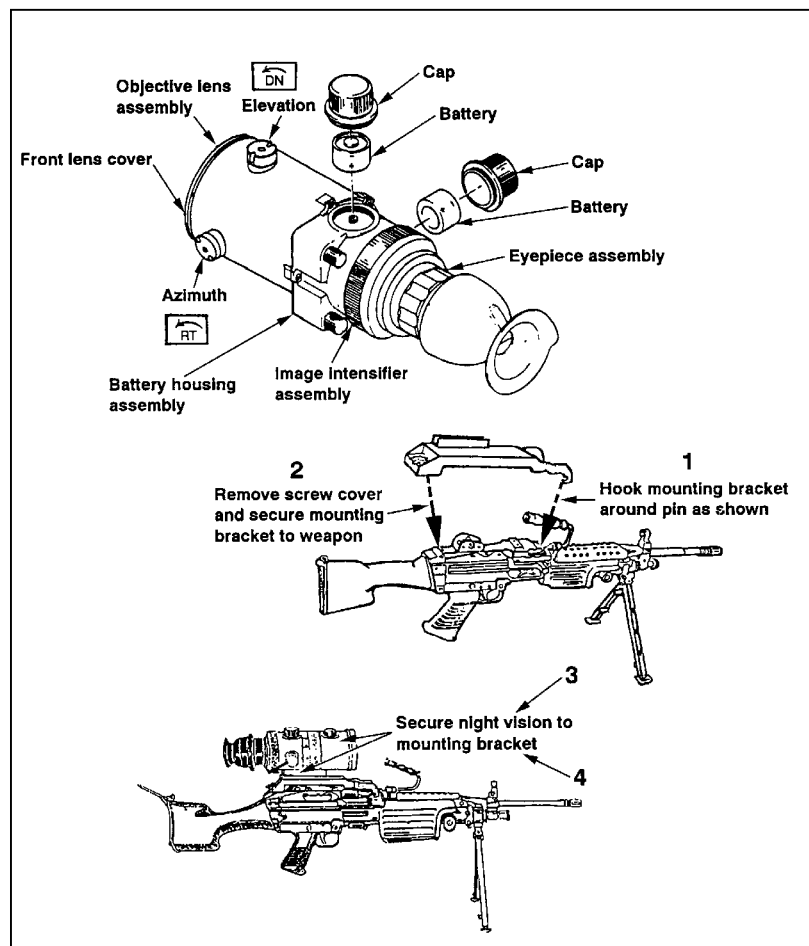

Figure G-54. Mounting the AN/PVS-4 to the M249 light machine gun.
(1) Place the mounting bracket on top of the feed cover mechanism assembly so that the two forked ends are secured around the headless pins.
(2) Remove the screw cover behind the rear sight assembly, and screw the bracket knob in until it is tight.
- (3) Position the AN/PVS-4 on top of the bracket so that the mount of the AN/PVS-4 is aligned with the mounting knob of the bracket.
- (4) Turn the mounting knob clockwise until the AN/PVS-4 is tight (Figure G-54).